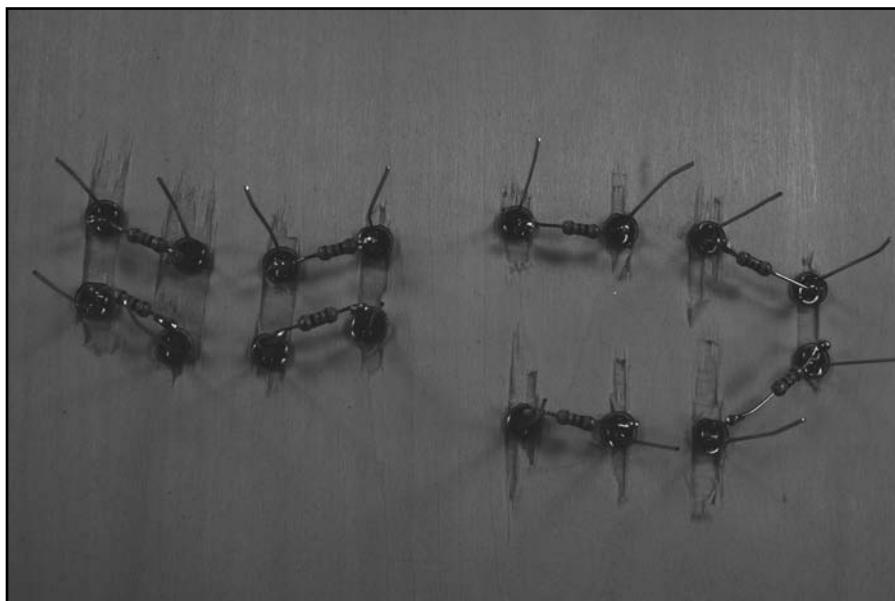
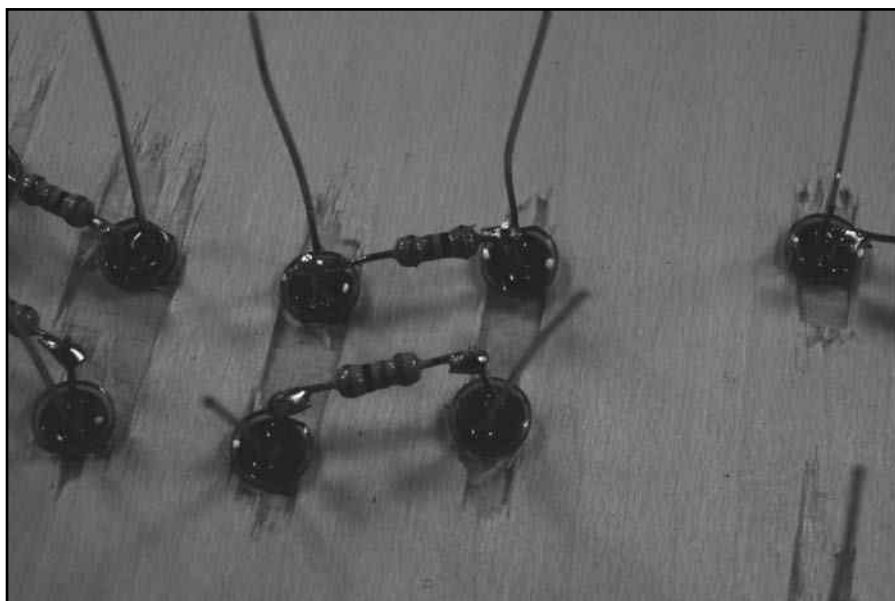

Figure 5-16:
Figure 5-17:
7. Attach resistors between the pairs of LEDs, as shown in Figure 5-16.
Clip only the leads to which you have soldered resistors. Figure 5-16 shows how the LEDs and resistors should look at this point. Figure 5-17 shows a close up to help you see the soldering more clearly.